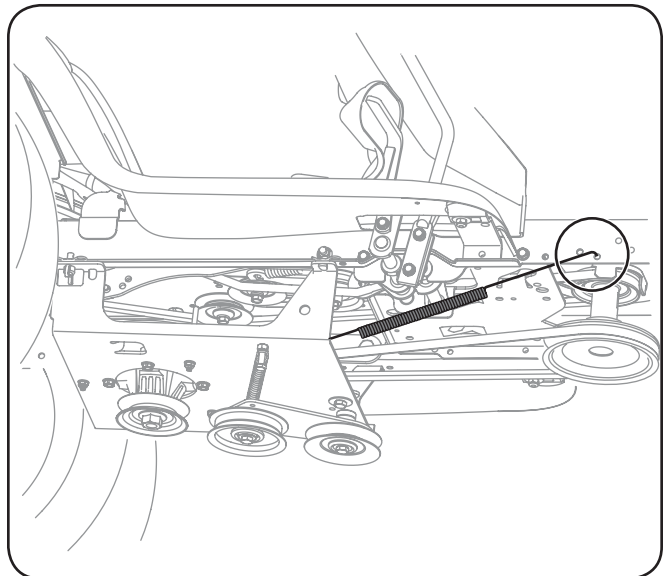

Figure 3-10
8. Connect the other end to the tractor's frame rail. See Fig. 3-10.